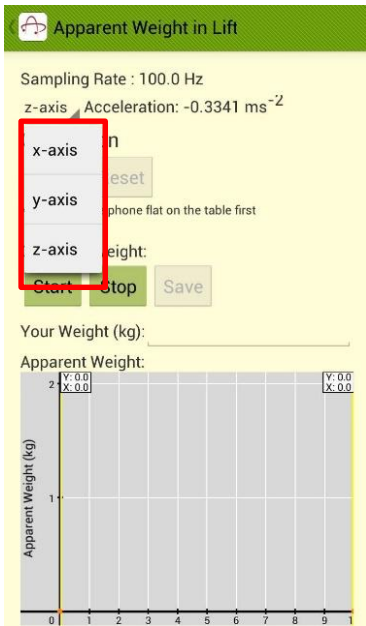

Fig 5.7
- Press the “Axis Selection” tab on the left of the instantaneous Acceleration reading (up to 4 decimal places) to choose a desired axis (Fig 5.7). In this case, z-axis is chosen and the display of the device should face to the top. Fig 3.3 and 3.4 give reference for the axes but they may vary in different devices. You are advised to test the axes of your device in advance.